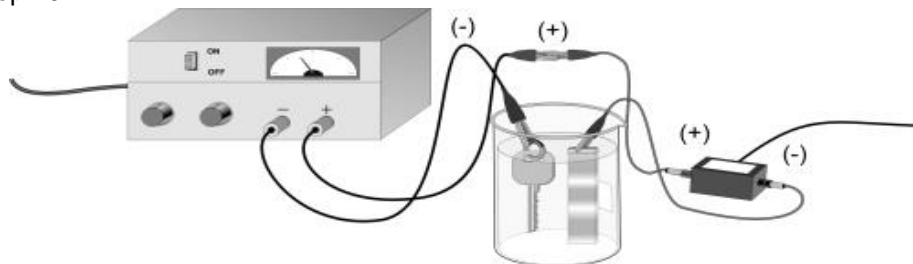

Figure 2
- ~~7) Obtain a DC power supply and a Vernier Current Probe. Use connecting wires, with alligator clips, to connect the DC power supply, Current Probe, and the electrodes (See Figure 2). Important: You will not place the electrodes in the cell until Step 10.~~